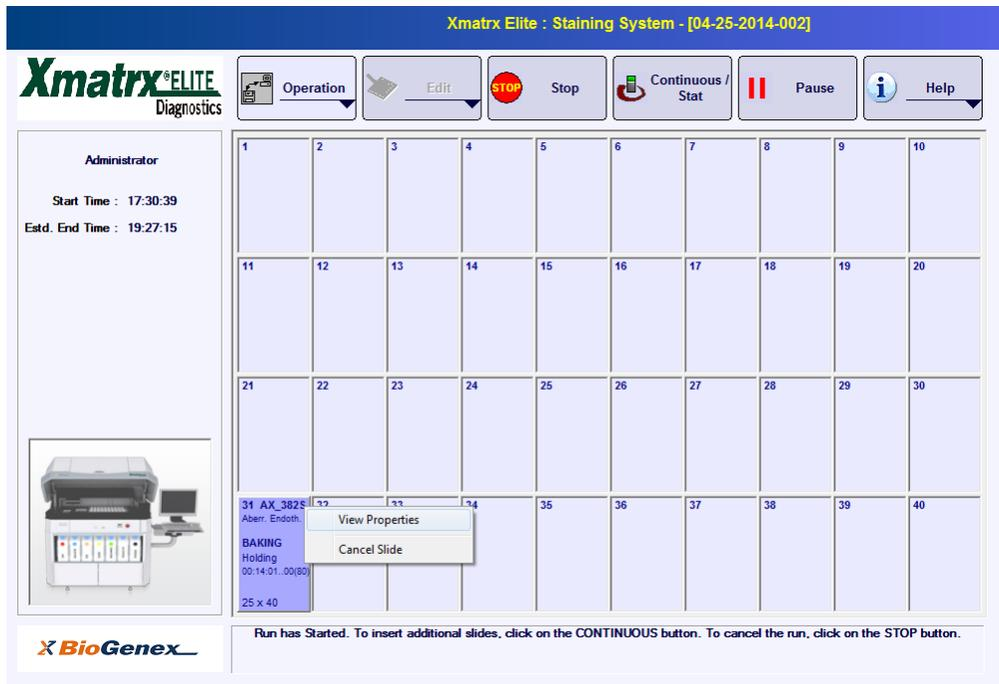

Figure 49<View Properties> Menu
1. Right click the slide to view the drop-down menu (**Fig. 49**).